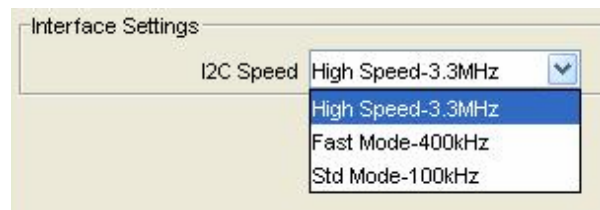

Figure 7: I²C Speed Select
6. Configure the I²C Interface speed as seen in Figure 7. Standard mode, Fast Mode, and High Speed mode are supported.